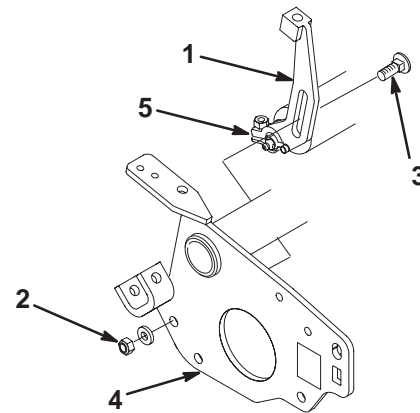

Figure 2
2. On the same end of the cutting unit, remove the locknut and flat washer from the carriage bolt securing the height-of-cut bracket to the cutting unit side plate (Fig. 2).
3. Remove grease fitting from end of roller shaft and replace with 90° grease fitting (Fig. 2).